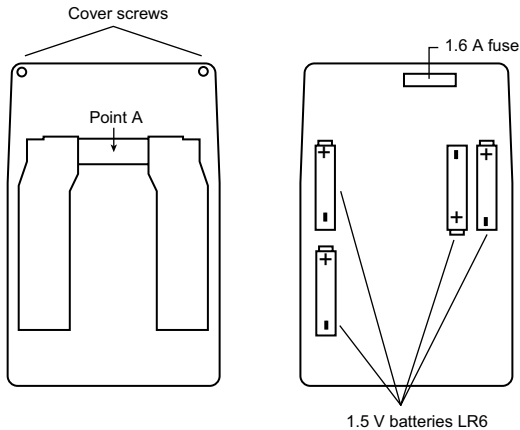

Figure 11
- Remove the two screws from the back of the instrument (Fig. 11).
- To close the back stand flush with the back cover, apply light pressure at Point A in Fig. 11.